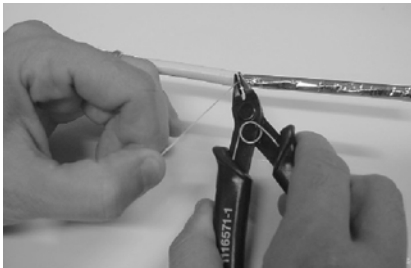

Figure 15
2. Remove ripcord if present. Do not cut the foil. See Figure 15.